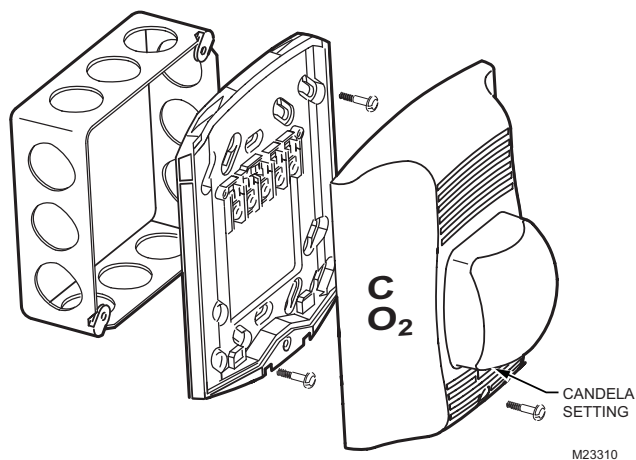

Fig. 5. Installation of Strobe/Alarm on double gang junction box.
1. Attach mounting plate to junction box as shown in Fig. 5. The mounting plate is compatible with 4 inch square, double gang, and 4 inch octagon junction boxes.
5. Make sure candela setting is set at "15/75". Adjustment is made on back of strobe/alarm. The number is visible in front underneath strobe light (see Fig. 5).